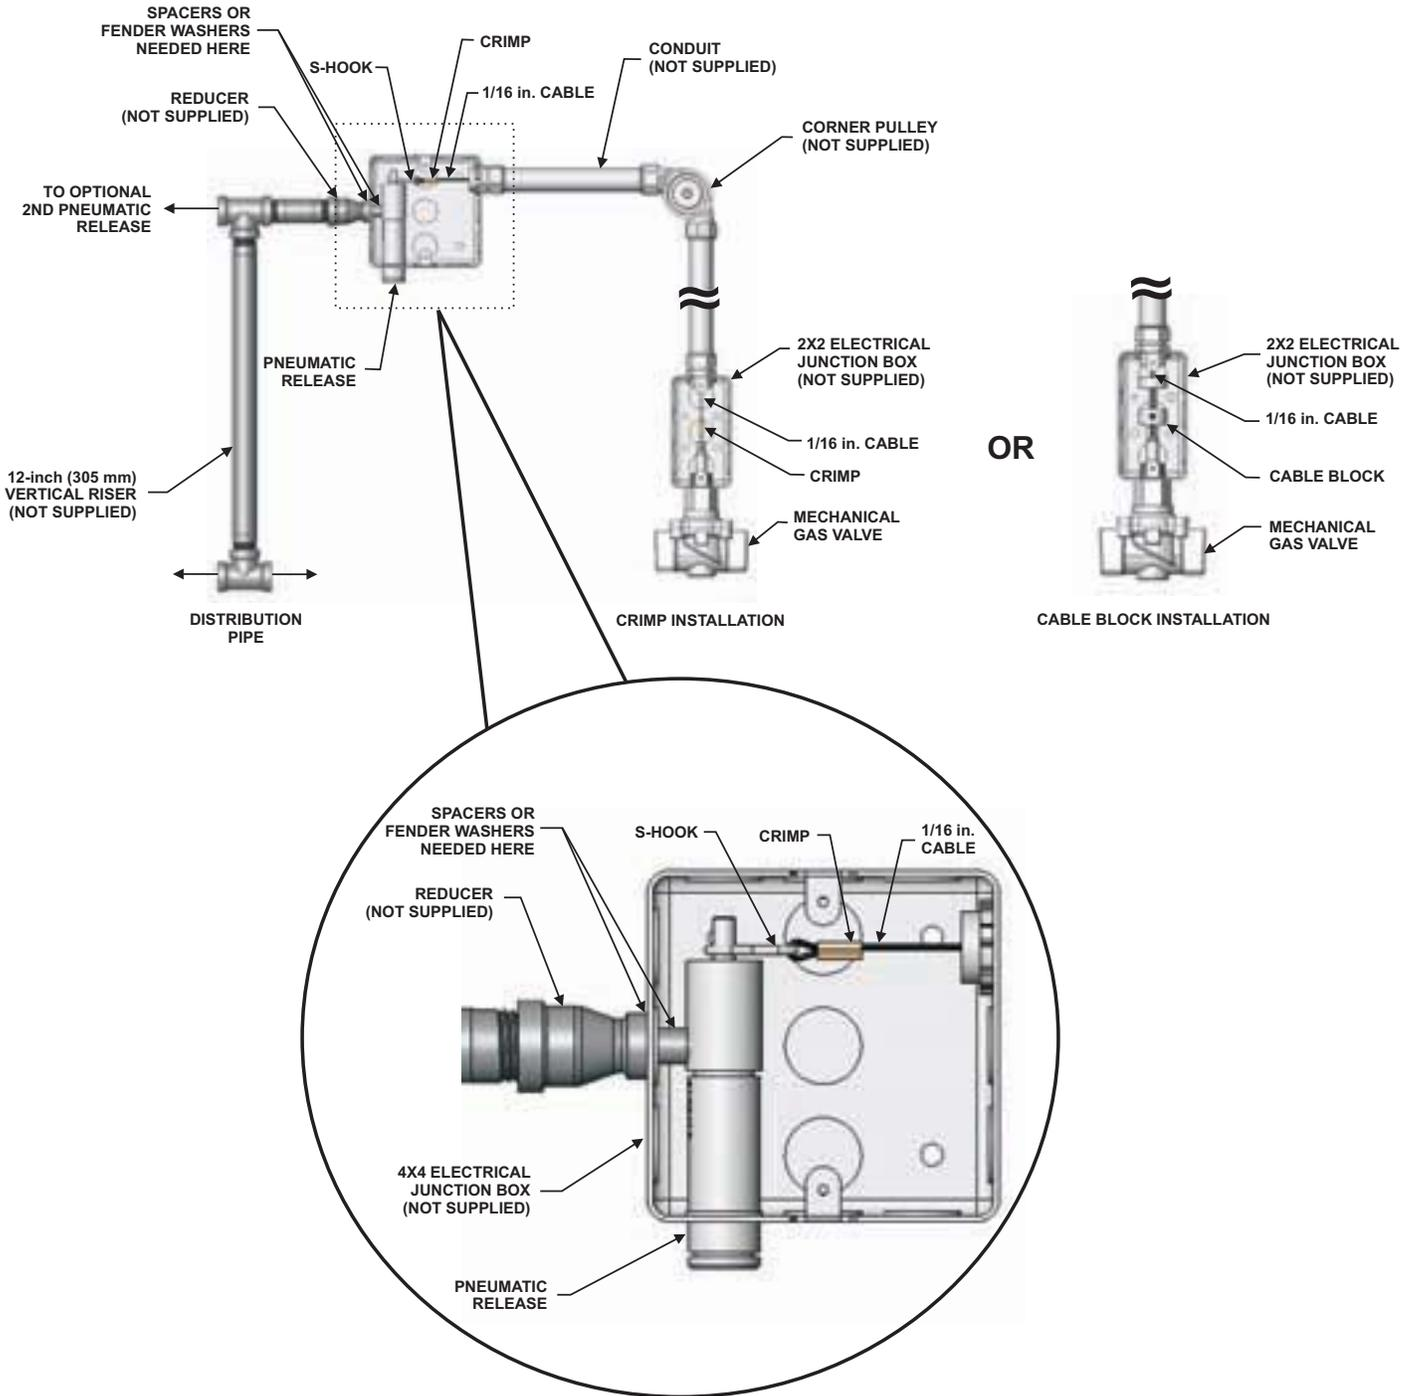

Figure 4-81. Example of a Pneumatic Release Installation
3. Remove three (3) knockouts from a 4x4 electrical box as illustrated in Figure 4-81.
7. Place the pneumatic release through the center knockout of the 4x4 electrical box as shown in Figure 4-81. The 1-1/2-inch x 1/4-inch NPT nipple should extend outside the electrical box.
10. Attach the vertical riser, tee, and piping to the reducer and tighten. Refer to Figure 4-81.
18. Adjust the length of the cable so that the gas valve is in the fully opened position when the "S" hook is placed on the piston rod of the Pneumatic Release. Secure the cable with a crimp or cable block. Refer to Figure 4-81.